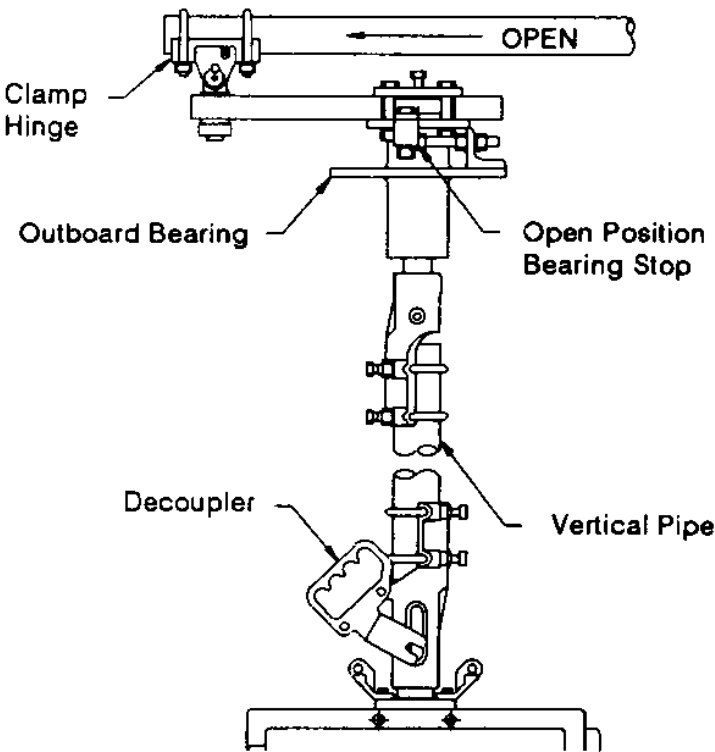

Figure 35 -- Vertical Control Pipe Installation 72-265-035-428
- 4. Install vertical control pipe between outboard bearing clamp and the flat abutment surface on the motor operator decoupler. Be sure the 5/8 inch gauge block is in position to space the decoupler at this height above the serrated disk on top of the motor operator as shown in Figure 35. Use kit #5 and kit #6 to mount the ground braid and position indicator respectively.